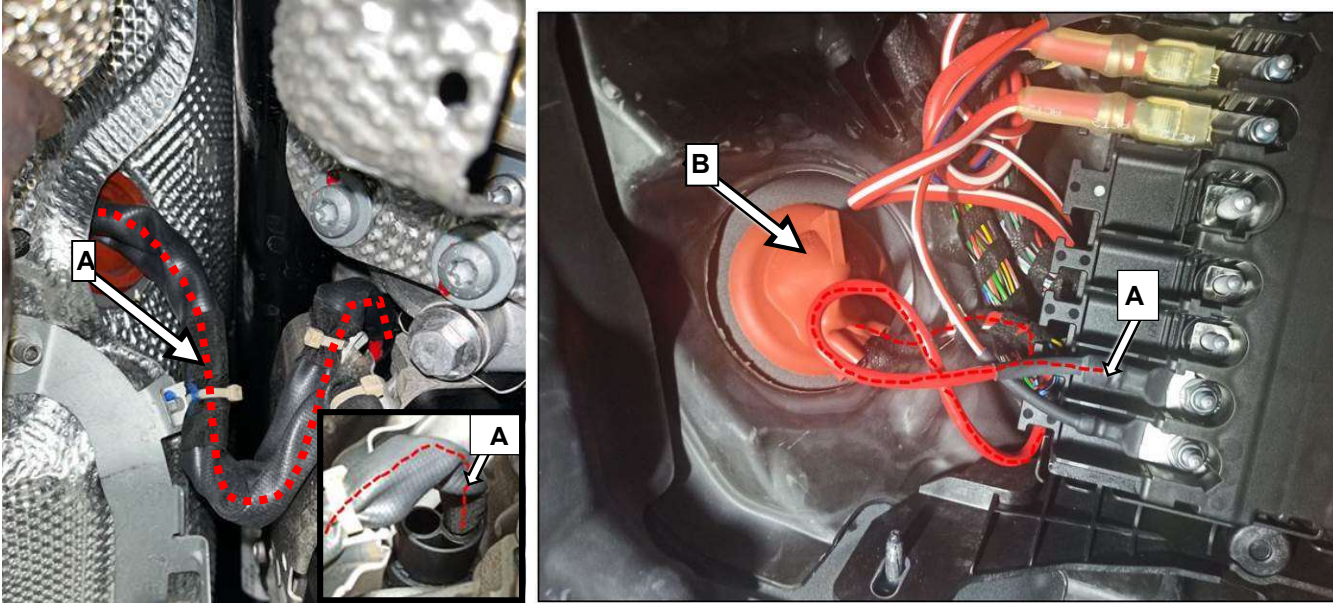

Figure 5
i If the electrical power supply line (Figure 5, A) (line cross section 10 mm²) is damaged, replace electrical power supply line (Figure 5, A):
4. Disconnect electrical power supply line (Figure 5, A) from electrical connector at transmission.
6. Remove electrical power supply line (Figure 5, A) with grommet (Figure 5, B).
7. Replace electrical power supply line (Figure 5, A).